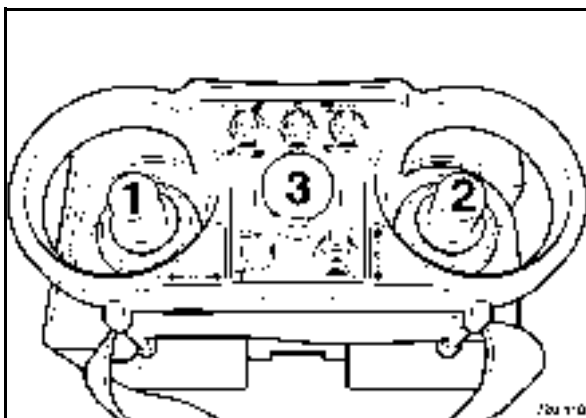

Fig. 47
- With the machine shut down actuate and hold one of the travel levers 1 or 2 (Fig. 47).